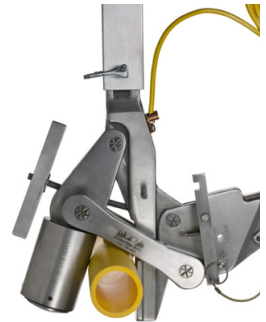

Fig 6
6. Open the tool and place over the pipe until the **Tool Links** are tight against the pipe. (*Fig 6*)